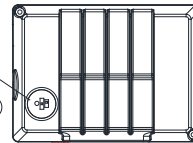

figure 13
1. Open the metal plug and plastic plug counterclockwise with a screw driver (figure 12) , then slide the switch up and down to adjust the power controller,CCT controller or photocell controller in your demand. ( figure 13,14,16)